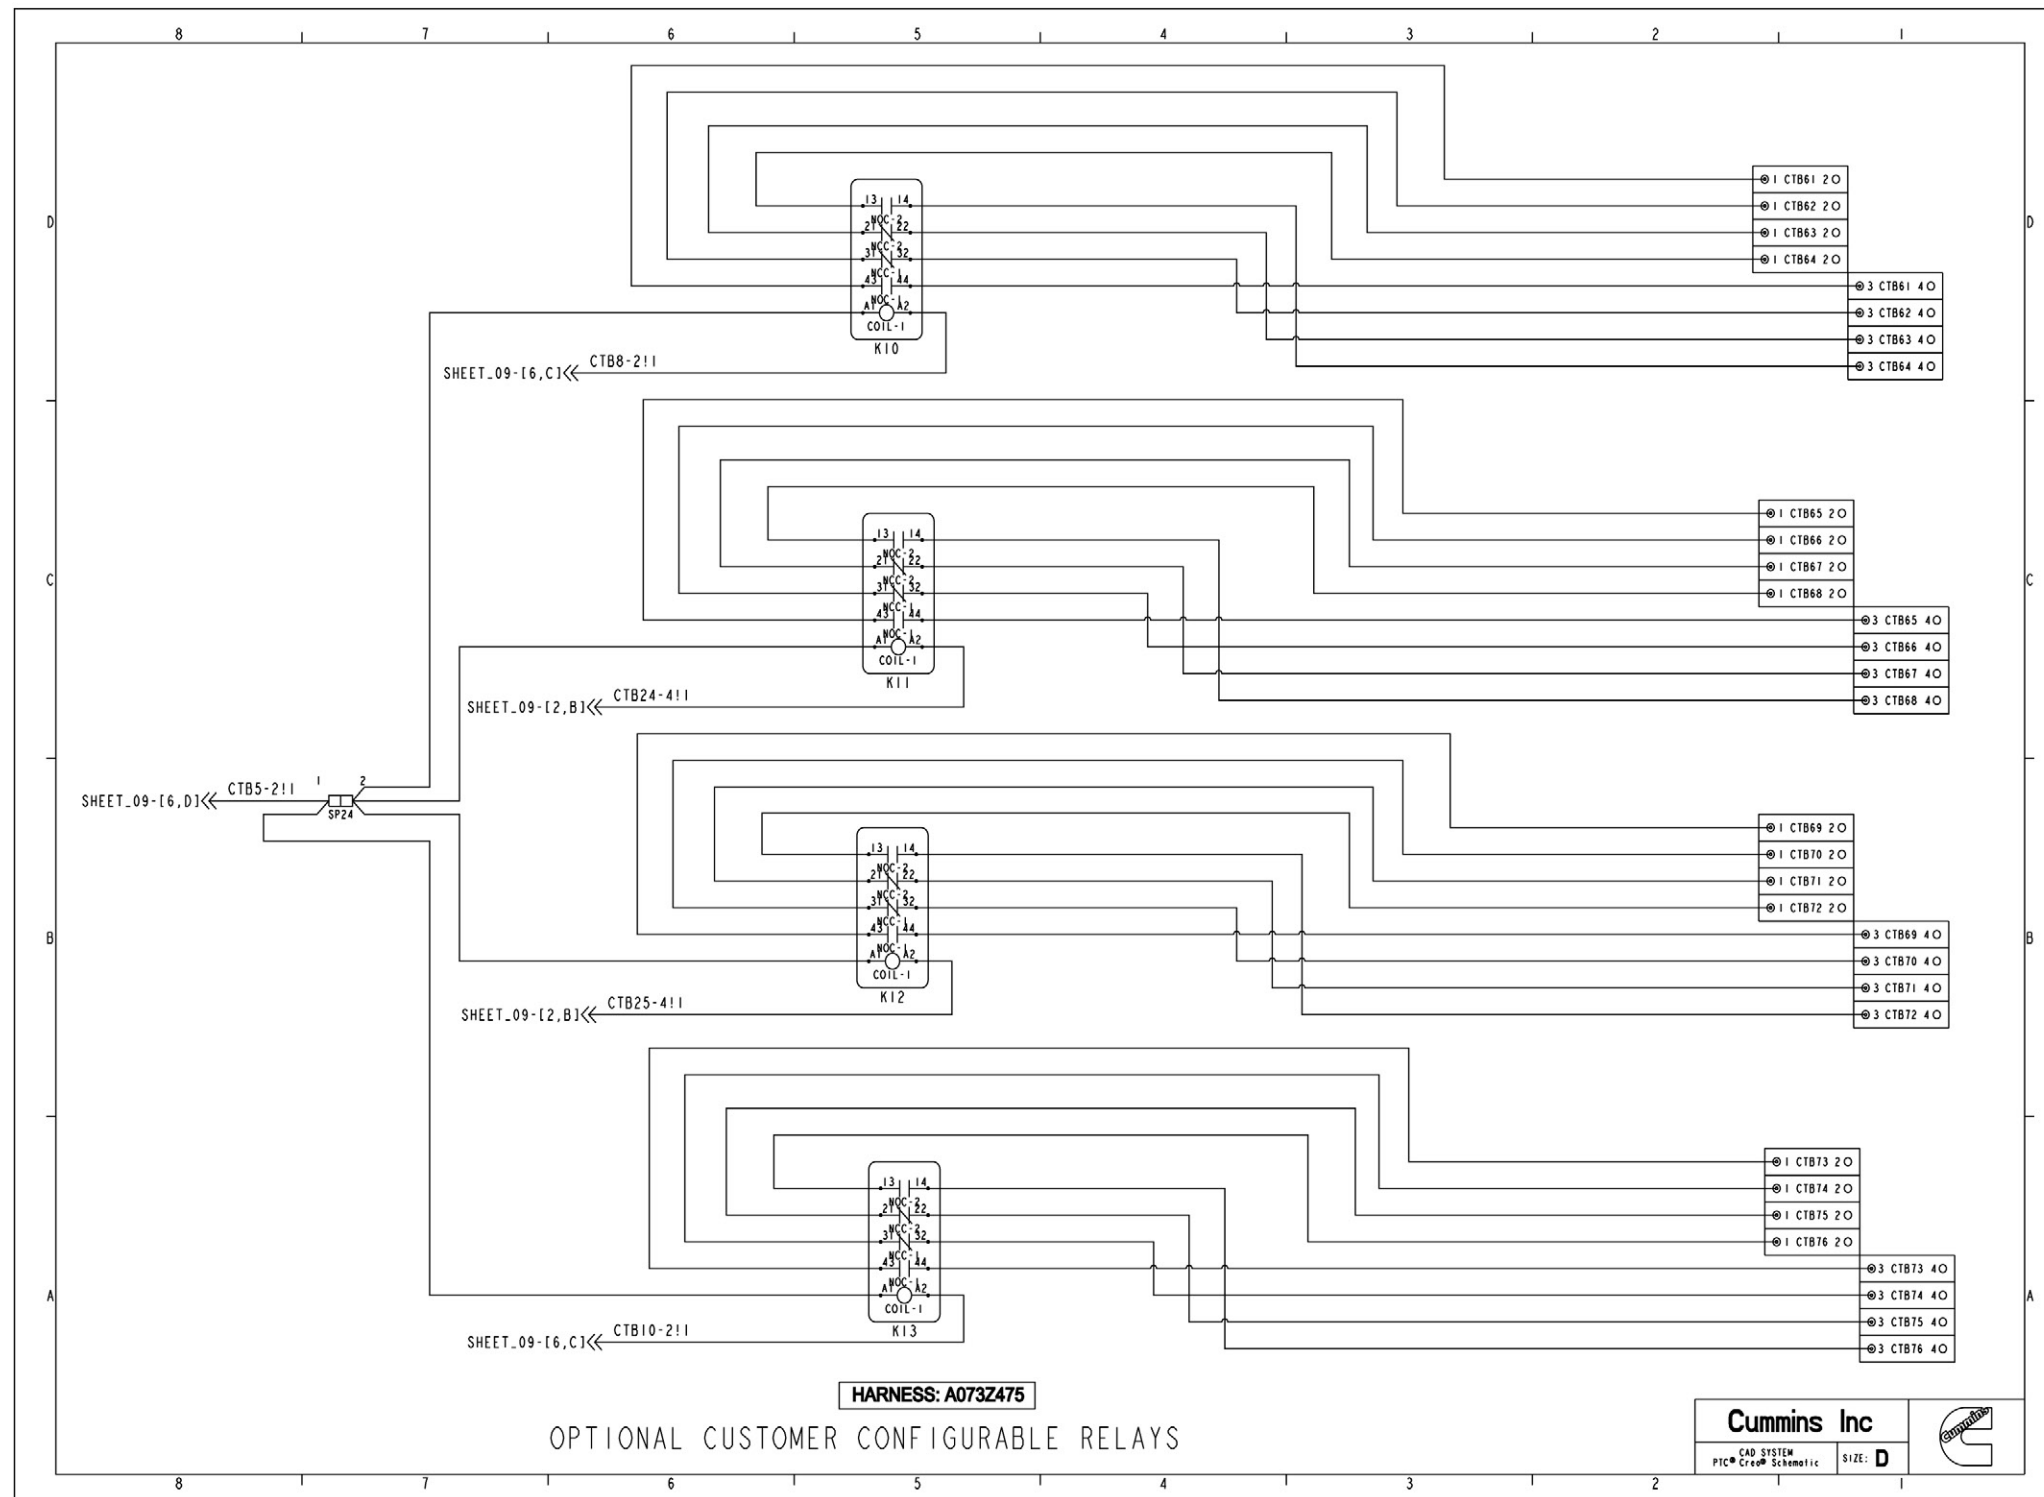

FIGURE 70. WIRING SCHEMATIC (SHEET 15)
- Figure 70. Wiring Schematic (Sheet 15) 125